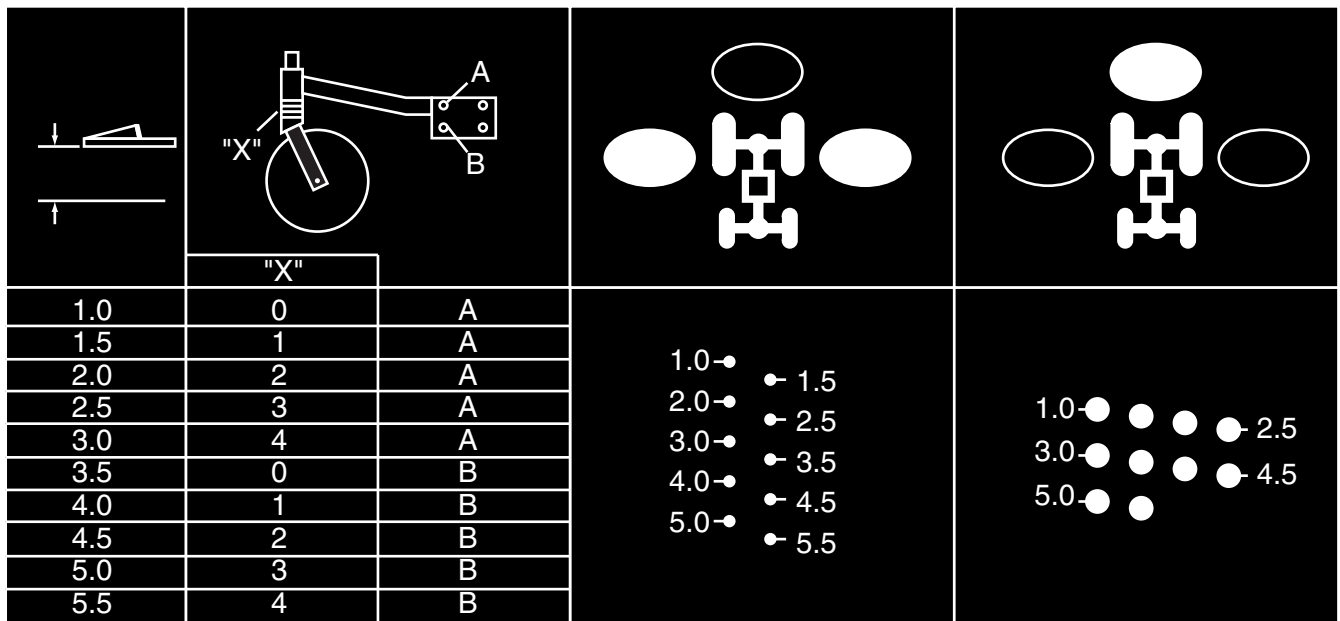

Figure 4M
2. **Figure 4M** shows the height adjustment decal for the casters.